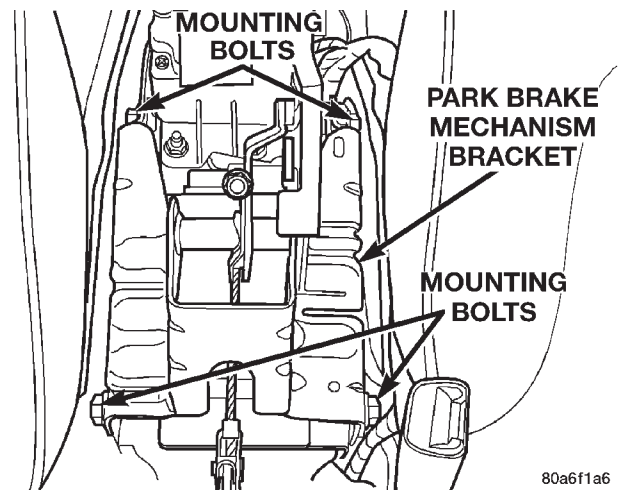

Fig. 138 Park Brake Lever Bracket Mounting
(13) Remove the 4 bolts (Fig. 138) attaching the park brake mechanism bracket.
(14) Remove the park brake mechanism from the vehicle.
(1) Place the park brake mechanism on the console bracket. Install the 4 bolts (Fig. 138) mounting the